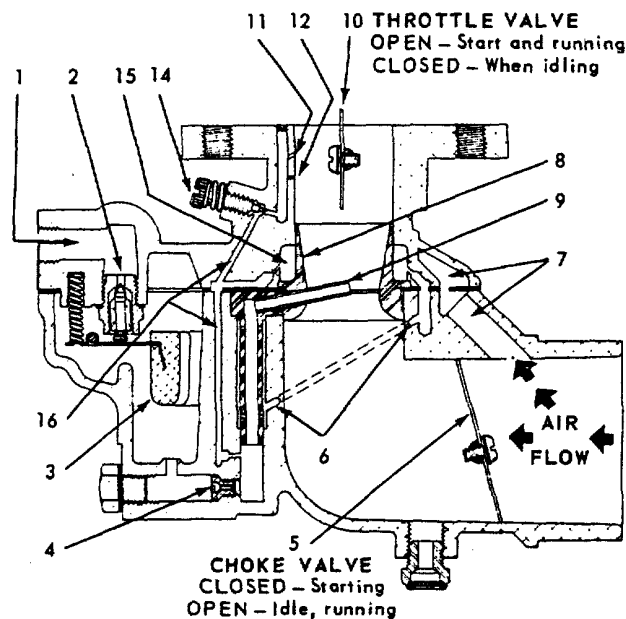

FIGURE 29
OPERATION, Fig. 29
For a complete disassembly, follow the sequence of part reference numbers in the carburetor exploded view, Fig. 31. **Nozzle Ref. 9, Fig. 29 is not removable.**
ADJUSTMENTS, Fig. 29 Turn Idle speed screw (5), Fig. 31, in until throttle valve is slightly open. With engine warmed up and running, turn adjusting screw in or out as required to obtain desired low idle speed (1000 to 1200 r.p.m.).